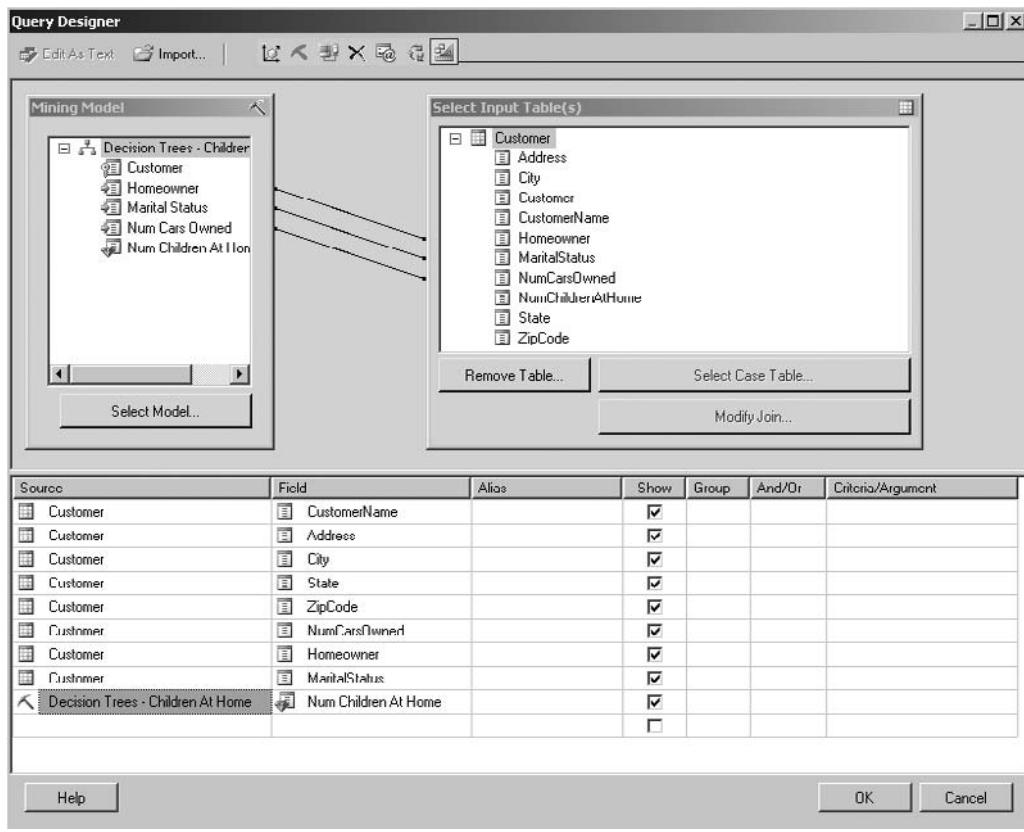

Figure 16-35 The DMX Query Builder
28. When completed, the DMX Query Builder appears as shown in Figure 16-35.